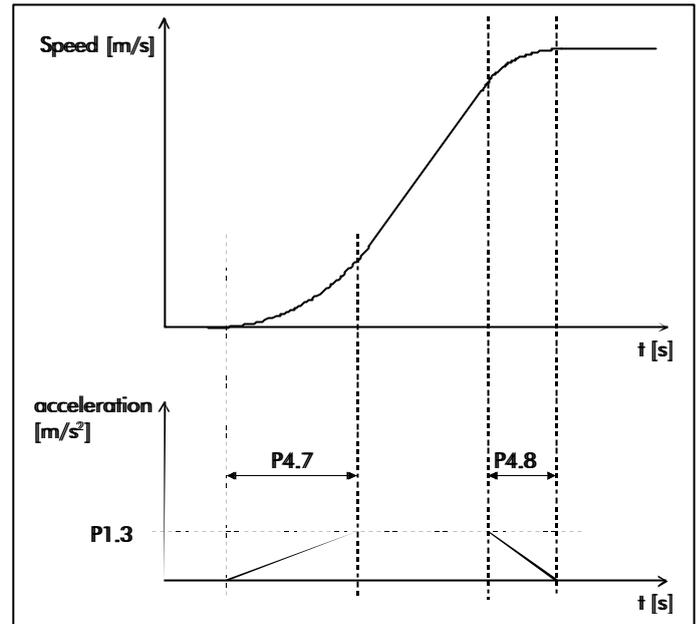

Figure 14. Jerks related to speed and acceleration.
4.14 Acc Inc Jerk 2 See Figure 14
4.15 Acc Dec Jerk 2 See Figure 14
4.16 Dec Inc Jerk 2 See Figure 14
4.17 Dec Dec Jerk 2 See Figure 14